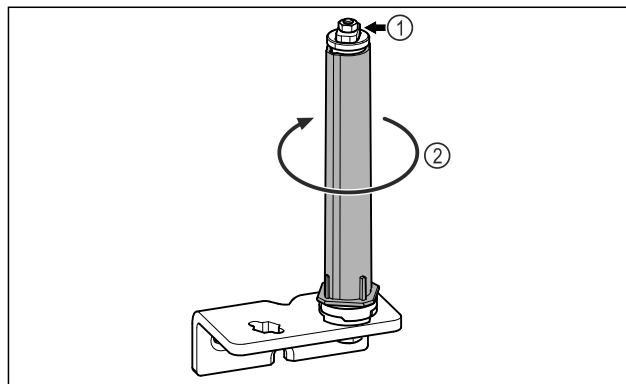

Fig. 21
- Do not dismantle the door locking system Fig. 21 (1).
- Turn the locking system Fig. 21 (2) until it clicks.